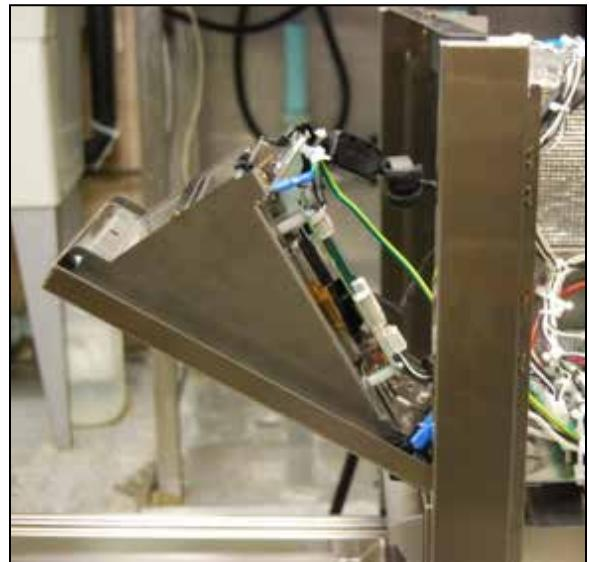

Figure 23a
2. Remove the screw above the touchscreen and tip the service panel forward to access the LCD controller. (Figure 23a)